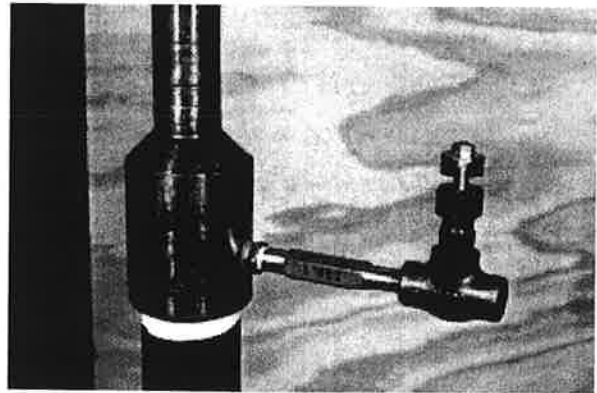

Figure 25. Purge Air through Bleeder Valve
- D. As the drill penetrates the pipe wall, allow line fluid to completely fill valve and fitting to purge all air. See Figure 25. Close bleeder valve after air is purged.
- F. By rotating feed tube counterclockwise, retract drill until feed tube is at zero mark on the body tube. If line is under high pressure, it may be necessary to install the locking cap and retract the boring bar by using the ratchet handle. Refer to paragraph 6.0 (A), Section I.
- B. Stand clear of bleeder valve. Bleed off pressure trapped in valve adapter by opening bleeder valve on drilling machine. See Figure 25.